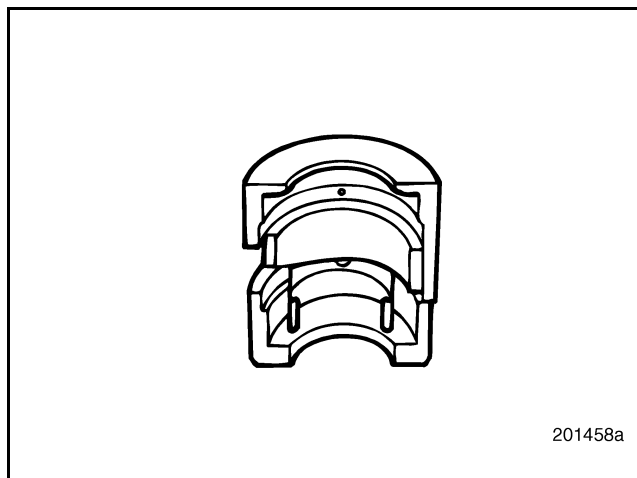

Figure 116 — Camshaft Installation Guide
3. Install the camshaft removal/installation tool J 41682 (Figure 116) in position on the rear segment of the camshaft, securing it with the clip to the shaft.